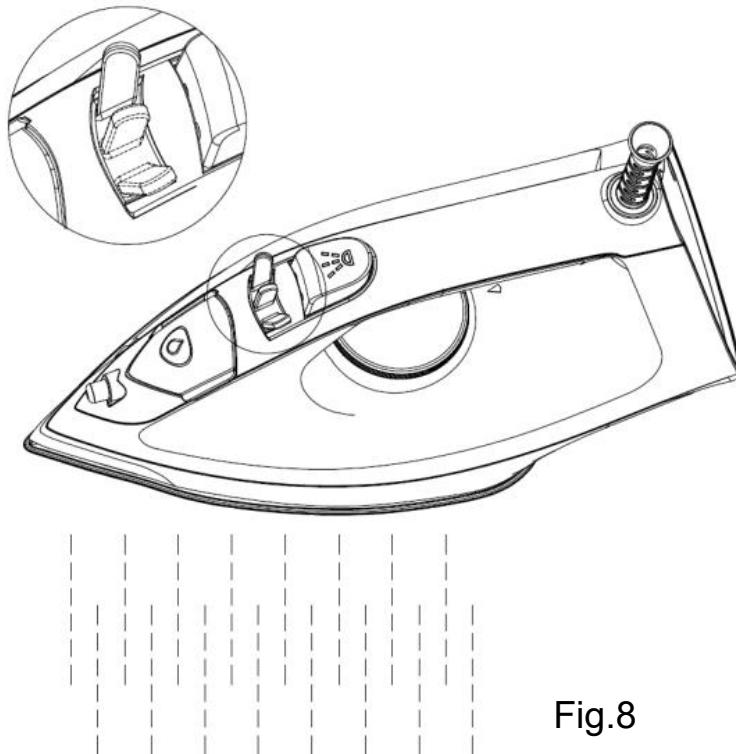

Fig.8
11. We should clean the appliance regularly according to the water hardness and the frequency of use. To active the Clean function, turn the Steam knob to the Clean setting and hold it (see Fig.8), then the appliance enters into the clean mode. And the appliance will enter into the steam mode after releasing the Steam knob.
- (1) Never touch hot soleplate at any time before it has cooled down!
- (2) To make the soleplate keep smooth, the soleplate should be prevented from contacting with metal objects. Never use a scouring pad, vinegar or other chemicals to clean the soleplate.
5. Regularly clean the inner of the appliance by activating the Clean function (see Fig.8).